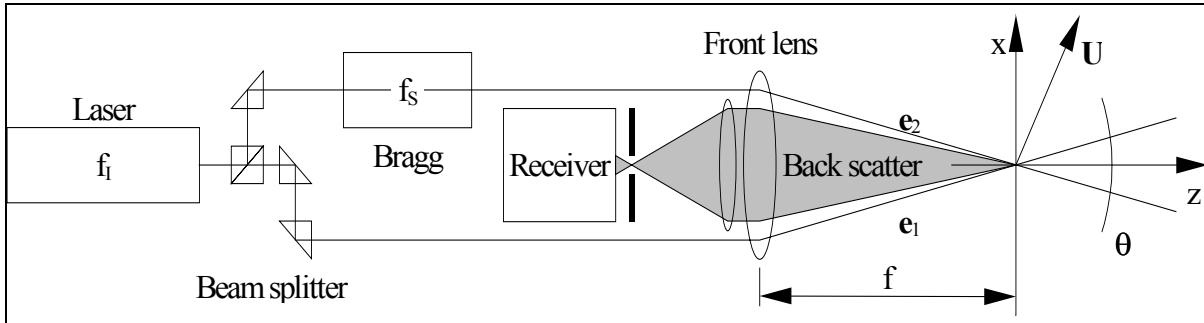

Figure 7-7 Principles of backscatter LDA.
Figure 7-7 shows a schematic of how a backscatter LDA equipment is built. The beam from the laser is split into two identical beams. It is important, that the beam splitter is adjusted to give approximately the same intensity in the two laser beams produced.
-where f is the focal length of the front lens as shown in Figure 7-7, λ is the laser wavelength, d_i is the beam waist diameter of the laser beam before passing the front lens, and E is the beam expansion factor as explained below.